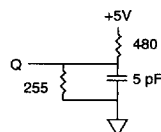

Fig. 2 OUTPUT LOAD EQUIVALENT
6. ¹HZCE and ¹HZWE are specified with C_L = 5pF as in Fig. 2. Transition is measured ±500mV from steady state voltage.